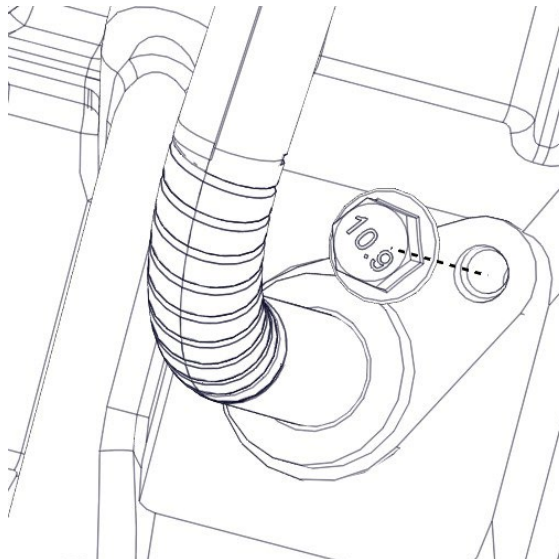

Figure 27. Oil Drain Tube Bolt
6. Remove the single bolt (Figure 27) on top of the cylinder block for all oil drain tubes.